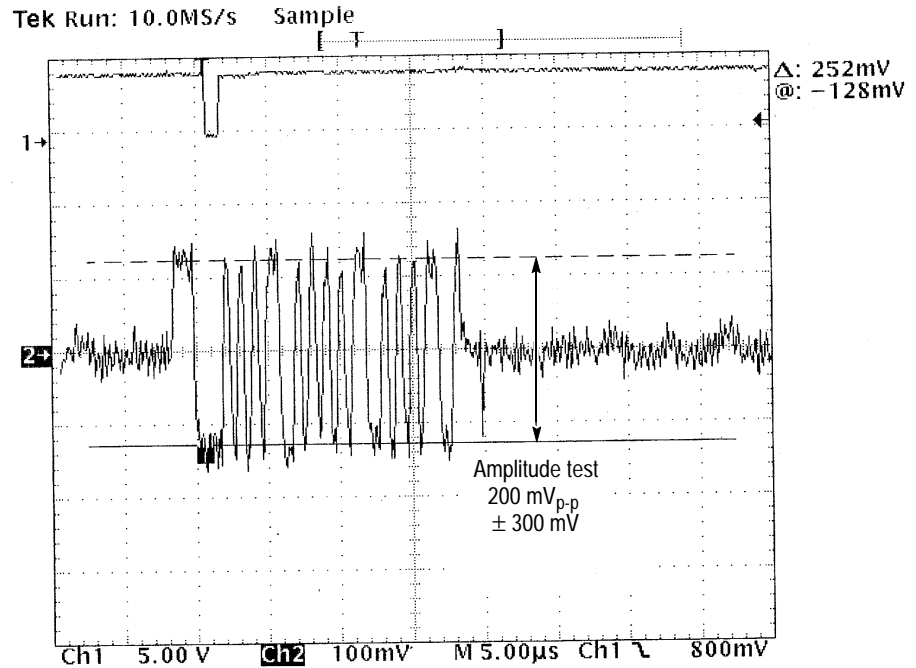

Figure 455-10: Amplitude Test, Millivolts Peak-to-Peak
2. Measure the peak-to-peak amplitude of the 1553 message on channel 2. Refer to Figure 455-10 to verify that the measurement is $200 \text{ mV}_{p-p} \pm 300 \text{ mV}$.
6. Measure the peak-to-peak amplitude of the 1553 message on channel 2. Refer to Figure 455-10 to verify that the reading is $200 \text{ mV} \pm 300 \text{ mV}_{p-p}$.